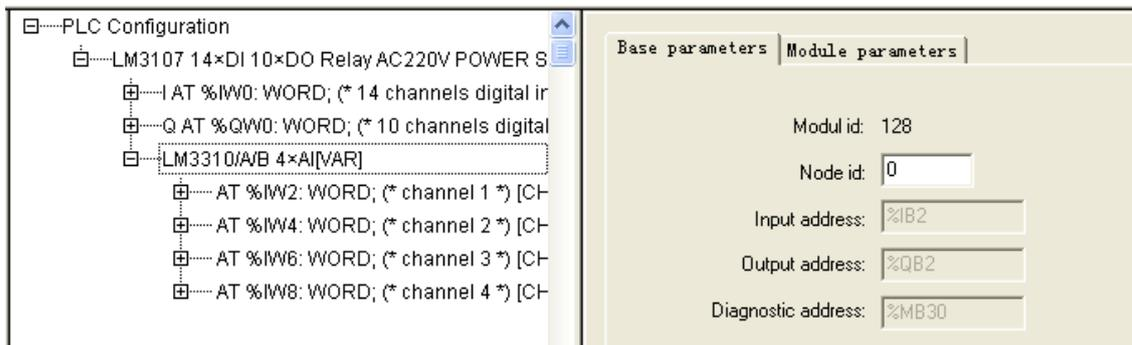

Figure 10-3-1 Configuration of AI Module
Take LM3310 for example. As shown in figure 10-3-1, you can configure a 4×AI module LM3310 after LM3107, and the addresses %IW2, %IW4, %IW6, %IW8 will be assigned automatically and each word stands for a channel acquisition data.
- If analog input expansion module is used in PLC configuration, call the instruction ANALOG_IN. The input value on Address of the instruction must be the same with the node id of AI module. The input value on Address of LM3310 is set 0, as shown in figure 10-3-1.